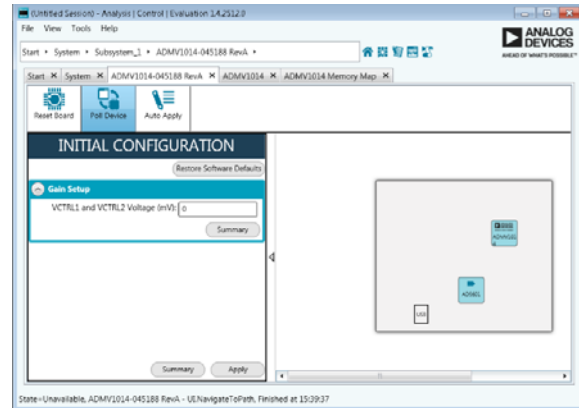
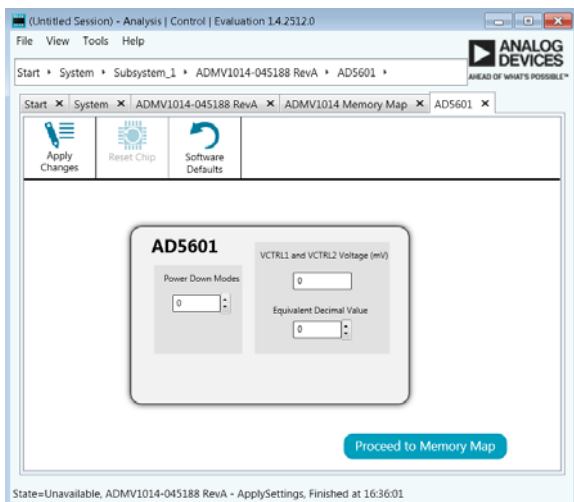

Figure 12. Initial Configuration for the Gain Setup and Board Plugin View
Figure 16. AD5601 nanoDAC User Interface
6. Click **Apply**, then click **Reset Board**, and then double-click **ADMV1014** (see the middle of the screen shown in Figure 12). For optimal performance, it is recommended to click **Reset Board** each time the USB is plugged in to the computer.
5. The **ADMV1014-045188 RevA** tab opens. On the left side of the screen, click **Initial Configuration** to open this menu. Go to **Gain Setup** to enter the VCTRL voltage. Note that 0 mV is the highest gain for the device (see Figure 12).
When using an external power supply for the VCTRL voltage, use the AD5601 nanoDAC plugin to change the voltage or to power down the nanoDAC. To open the nanoDAC plugin, click the AD5601 tab at the top of the ACE software window or double-click AD5601 within the ADMV1014-045188, Rev. A tab (see Figure 12). Figure 16 shows the AD5601 nanoDAC user interface. The user interface contains the **Power Down Modes** section and the VCTRL voltage section.
After making any changes to the voltage or the power-down mode, click **Apply Changes** shown in the top left of the ACE software window (see Figure 16). When **Auto Apply** is selected in the ADMV1014-045188, Rev. A tab, these changes take place automatically and there is no need to click **Apply Changes**.